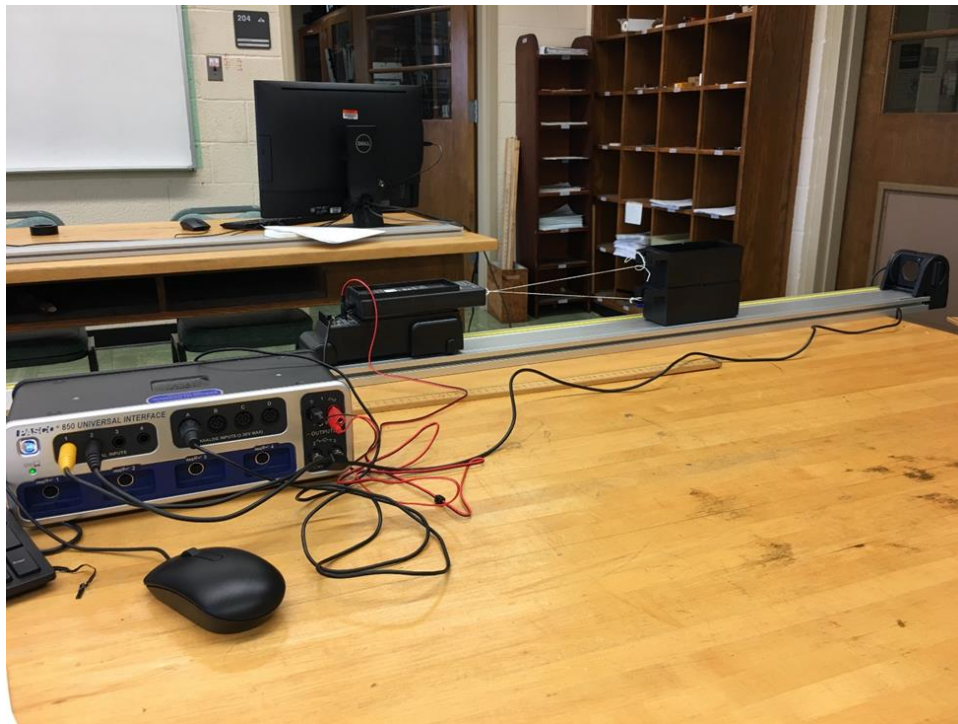

Figure 1: Measuring Sliding Friction
The Friction Trays have different materials on their bottom surface. The Motorized Cart (see Fig. 1) is used to pull the trays in a controlled manner along the track, as the Force Sensor directly measures the frictional force. All parameters are investigated, including speed, normal force, and surface area.
1. Set up the track as shown in Figure 1, and use the bubble level and the adjustable feet to level the track.